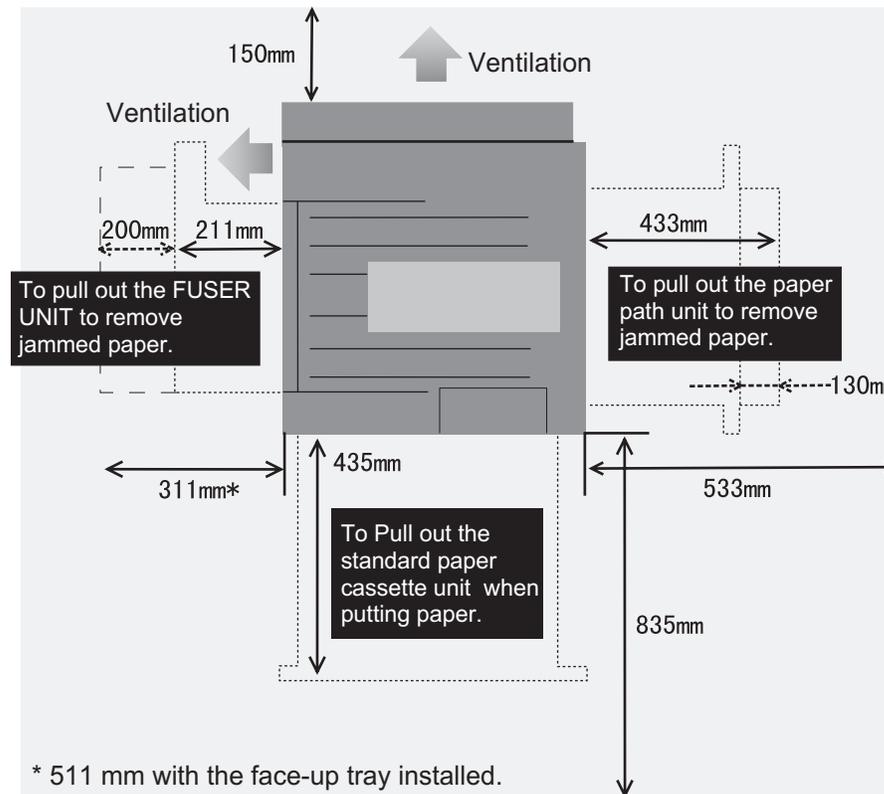

Figure 1-6. Space
- Surrounding environment: See Figure 1-6.